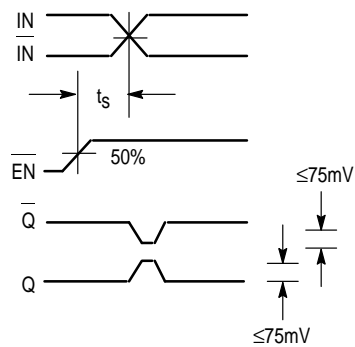

Figure 1. Setup Time
5. The setup time is the minimum time that EN must be asserted prior to the next transition of IN/IN to prevent an output response greater than  $\pm 75$  mV to that IN/IN transition (see Figure 1).